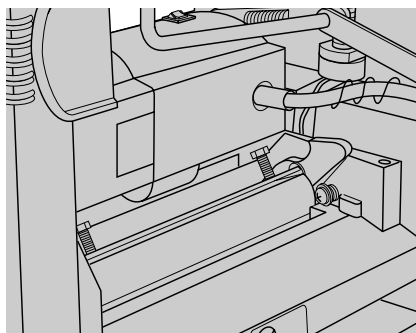

FIG. 19
- 1) Position the cutterhead as shown in Figure 19.